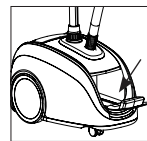

Figure 8
8. The fabric brush, lint brush, crease tool, and cloth covers may be stored inside the on-board storage compartment (Figure 8).